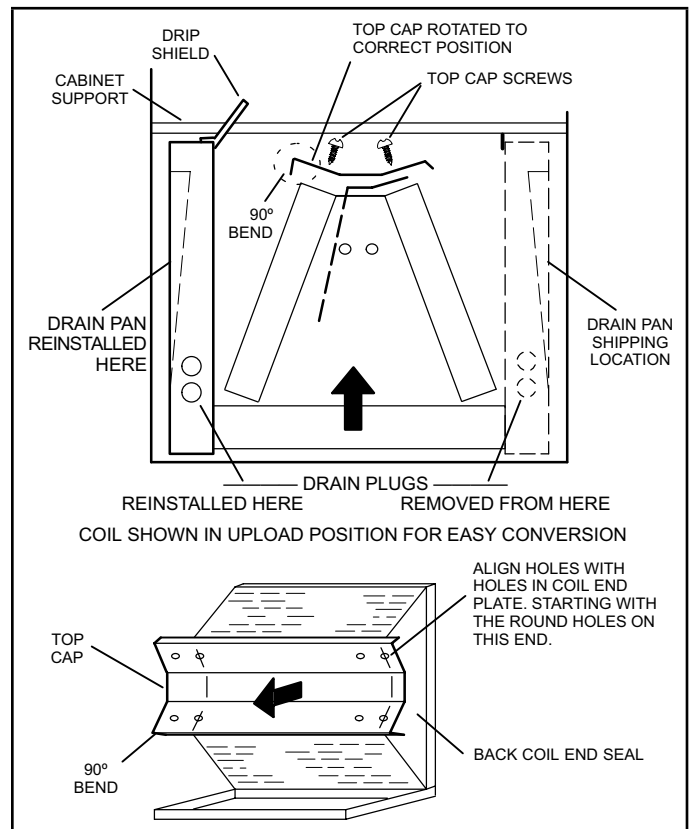

FIGURE 6. Field Modification for Left-Hand Discharge
- 5 - Remove screws from top cap. Remove horizontal drip shield screw located in the center of the back coil end seal as illustrated in figure 6.
- 8 - Rotate top cap 180° front-to-back and align with unused screw holes. Holes must align with front and back coil end plates. The top cap has a 45° bend on one side and a 90° bend on the other. **The 90° bend must be on the same side as the horizontal drain pan** as illustrated in figure 6.
- 9 - From the upflow position, flip cabinet 90° to the left and set into place. Replace blower assembly. Secure coil in place by bending down the tab on the cabinet support rail as illustrated in figures 6 and 7.
- 10 - Install the horizontal shield (-060 model) on the front edge of the horizontal drain pan as illustrated in figure 6.